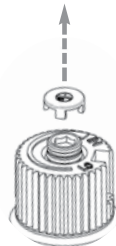

Fig.1
- 5) Remove the black protection cap by hand from the high-low knob (Fig.1).